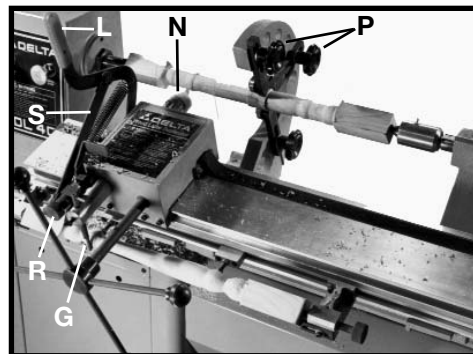

Fig. 83
Once the workpiece has a round surface, place a steady rest (P) Fig. 83 on the work to avoid vibration. Continue advancing the cut in 1/8" increments, using the spring handle (L), tool engagement levers, and fine adjustment knob (R) to follow the contours of the turning. **IMPORTANT:** Always pull back on handle (L) before advancing tool engagement lever (S).
When turning a workpiece of varying diameters, start the follower arm (G) Fig. 83 on the largest diameter and work down to the smaller diameter.
Perform final operation by moving carriage (N) Fig. 83 and sanding workpiece.